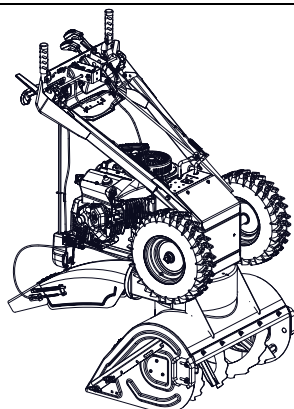

Figure 15
See Figure 15.
1. Place unit in service position (see Figure 15) and remove bottom cover.